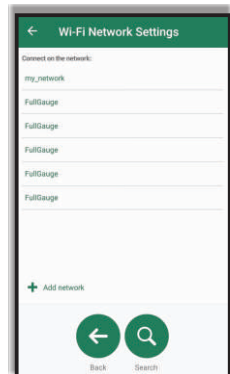

Figure 08
Step 3: Wi-Fi Network Mode (Figure 08), it is where the operating mode will be chosen between Wi-Fi Client or Wi-Fi Access Point. Select the option **Connect in a network**.